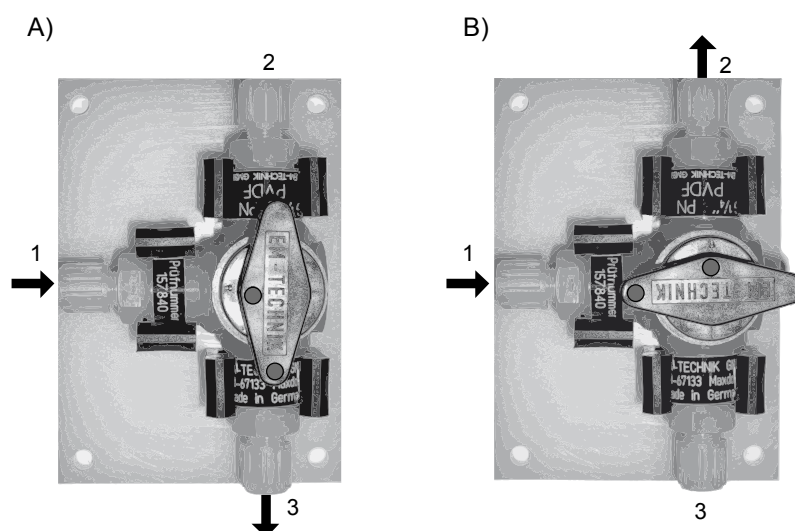

Fig. 15: 3-way valve: A) "Bleed" position; B) "Operation" position
9. Turn the 3-way valve to the "Bleed" position - see Fig. 15 A)